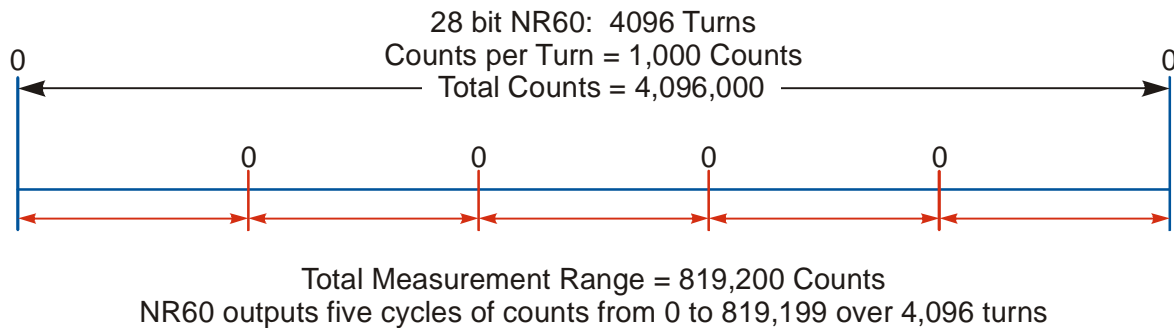

Figure 6 Fractional Turn Example 1
Figure 6 shows what occurs when the *Total Measurement Range* parameter is used to divide the full range of travel of the NR60 into equal parts. In this case, a twenty-eight bit NR60 has its 4,096 turns evenly divided into five cycles of 819.2 turns.
**NOTE** ⚠ If the value of  $\{\text{Total Counts} \div \text{Total Measurement Range}\}$  is an integer, the NR60 remains an absolute rotary sensor. You can remove power from the NR60, rotate it as far as you want, re-apply power, and the NR60 will give you the correct position value. Figure 6 is an example of this setup because the division of the two parameters results in a quotient value of five.